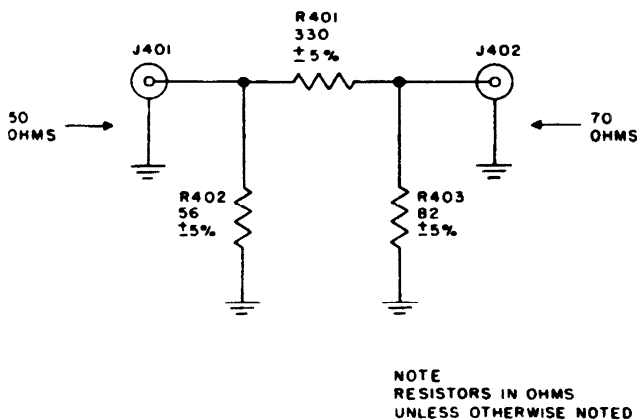

Figure 2-16. Impedance Matching Network CU-408/URM-25F Simplified Schematic
**13. IMPEDANCE MATCHING NETWORK CU-408/URM-25F.** (See figure 2-16.)